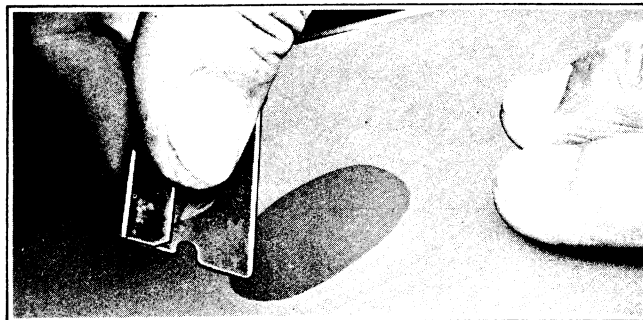

Figure 2-70. Spreading Coat Evenly
8. Spread the gel coat level with the surrounding area and allow to cure (30 - 60 minutes). See Figure 2-70. Gel coat can be covered with cellophane, if desired, to aid in spreading evenly. Remove cellophane after gel coat has cured.
4. Fill the scratch or hole slightly above the surrounding undamaged area, working the Filler coat into the damaged area with a putty knife. Be careful to puncture and eliminate any air bubbles which may occur. Patch can be covered with cellophane to aid in spreading evenly (see Figure 2-70). Allow to cure completely before removing cellophane.
12. Patch can be covered with cellophane to aid in spreading evenly (see Figure 2-70). Allow to cure completely before removing cellophane.